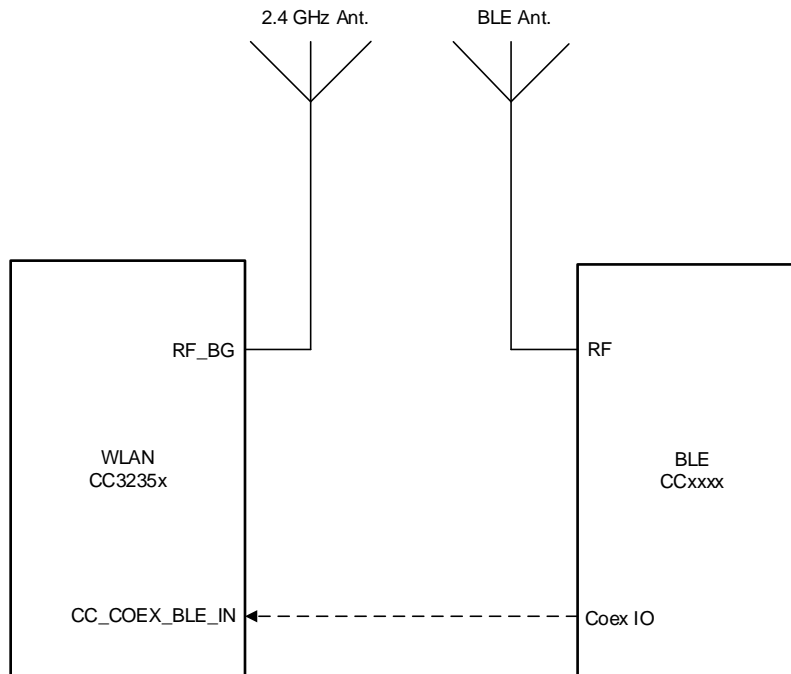

Figure 7-3. Dual-Antenna Coexistence Mode Block Diagram
- 2.4 GHz Wi-Fi Band (see Figure 7-3)
Figure 7-3 shows the dual antenna implementation of a complete Bluetooth® low energy and WLAN coexistence network with the WLAN operating on either a 2.4- or a 5 GHz band. Note in this implementation no Coex switch is required and only a single GPIO from the BLE device to the CC3235x device is required.